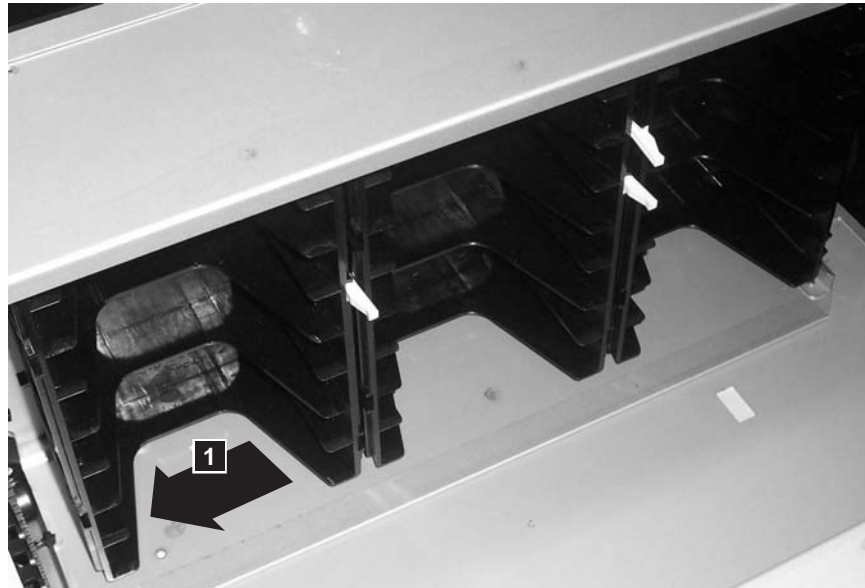

Figure 8-97. Removing a storage column
4. Pull the storage column toward the front of the library (**1** in Figure 8-97) to disengage the locking tabs on the back of the column.